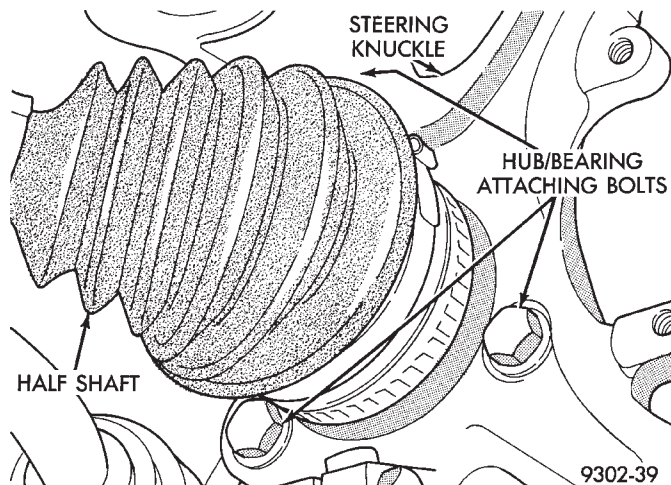

Fig. 9 Hub And Bearing Assembly Retaining Bolts
(2) Install the 3 hub and bearing assembly to steering knuckle attaching bolts (Fig. 9). Equally tighten all 3 mounting bolts until hub and bearing assembly is squarely seated against front of steering knuckle. Then torque all 3 hub and bearing assembly mounting bolts to 110 N•m (80 ft.lbs.).